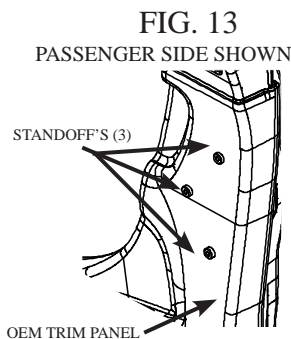

FIG. 14
- A. Attach the Passenger-side Mounting Plate (3K4711P) using the supplied 5/16-18 x 3/4” Button head screws (3X149) to the Standoff’s protruding through the B-pillar trim. Hand tighten fasteners only. (See Fig. 14) Repeat on the Driver-side.